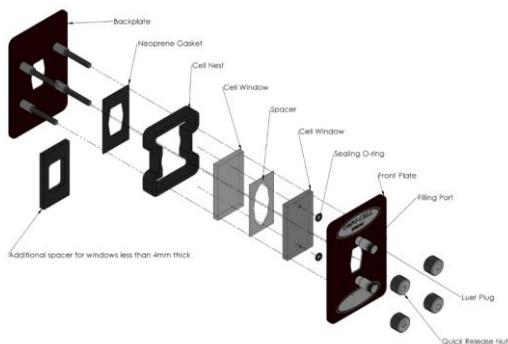

Figure 1: Construction of a Demountable Omni Cell.
Figure 1: Filling & Flushing the Omni-Cell: (1) In one side, syringe with liquid. In the other, an empty syringe, (2) Pull on the empty syringe, to make the liquid pass from the filled syringe into the Omni Cell, (3) With the liquid in both syringes and in the Omni Cell, remove the syringes and put on Luer plugs.